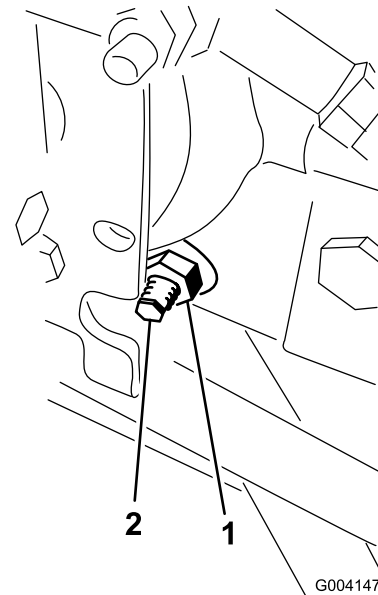

Figure 62
3. On the right side of the hydrostat, loosen the locknut on the traction-adjustment cam (Figure 62).